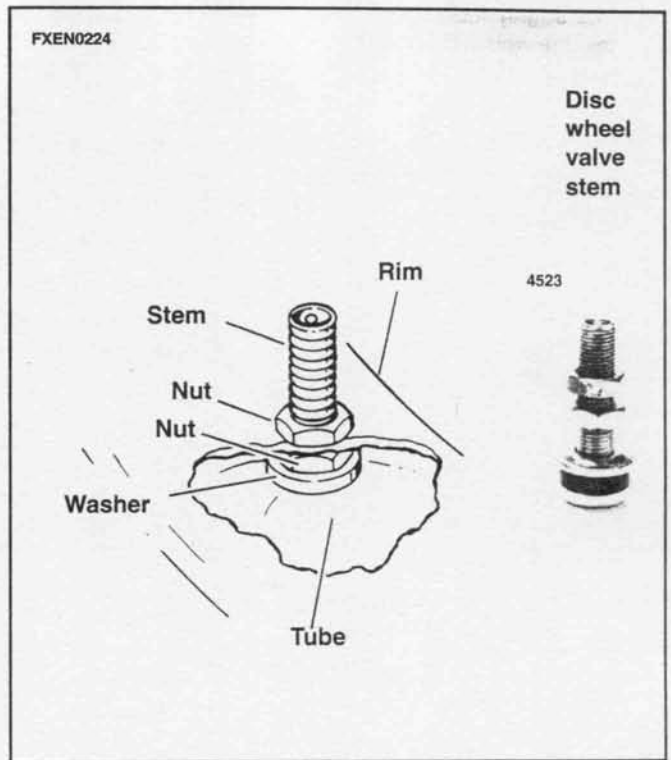

Figure 2-35. Tire Valve Stems
1. See Figure 2-35. On tubeless wheels, damaged or leaking valve stems must be replaced. Place rubber grommet on valve stem in recess of the valve stem head.